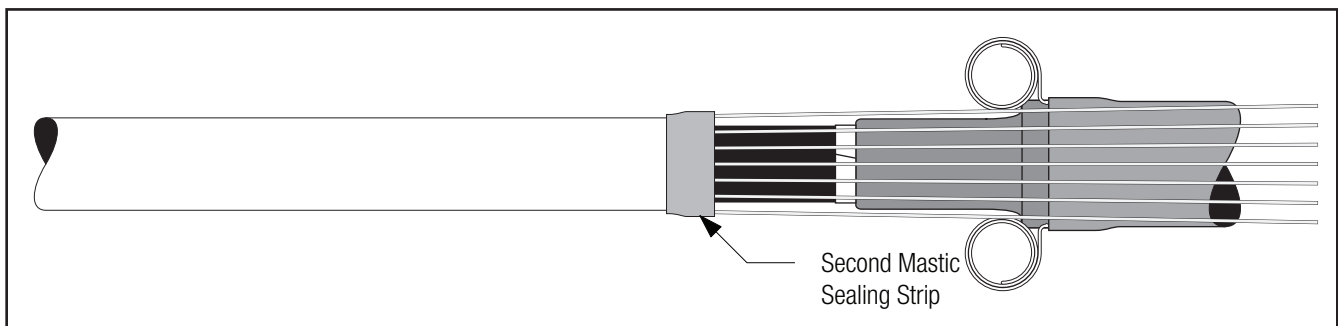

Figure 14
- 5.2 Fold neutral wires over splice body and wrap another mastic sealing strip over the cable jacket end and the first mastic sealing strip (*Figure 14*).